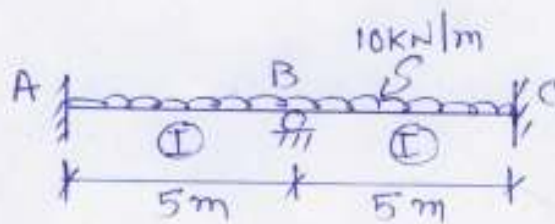

Figure-4
- Q.3** (a) Draw shear force and bending moment diagram of beam as shown in **figure-4** using flexibility matrix method. Choose moments as a redundant. **07**
- (b) Draw shear force and bending moment diagram of beam as shown in **figure-4** using stiffness matrix method. **07**